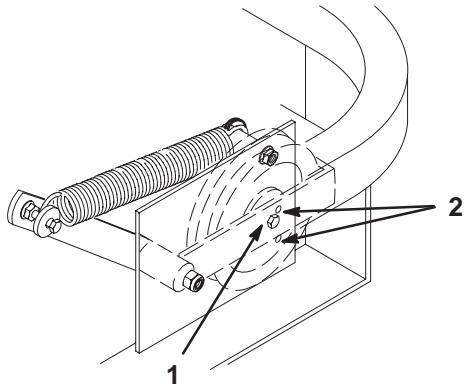

**Figure 52**
2. Remove the clutch retaining strap from machine frame and unplug clutch terminal from wire harness (Fig. 52).
3. Remove the PTO drive belt (Fig. 52).
5. Install clutch retaining strap and plug clutch terminal into main wire harness (Fig. 52).